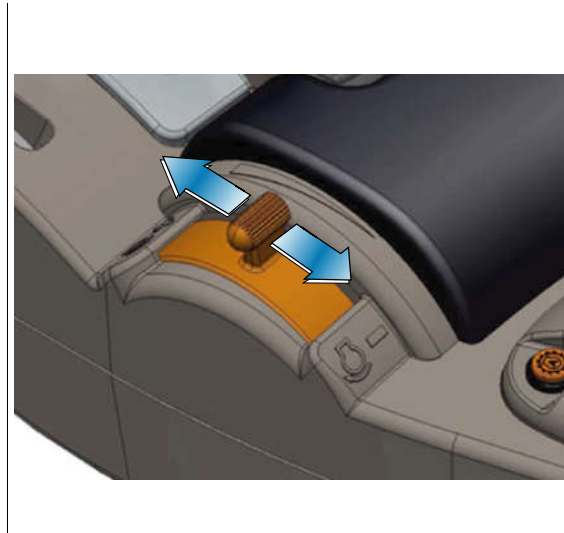

Fig. 9.
- (3) Service indicator light (yellow).
This lights up when a service is due. To switch off this indicator light, go to the Diagnostics screen 1 of the Dash Control Center fig. 9 and press button (15) of the menu access controls fig. 10 for 5 seconds
- (4) General failure alert light (red).